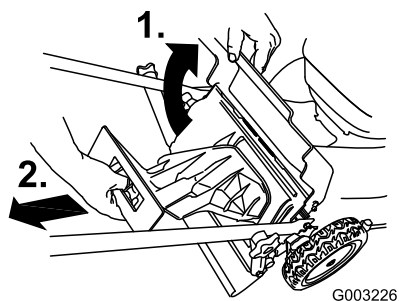

Figure 28
1. Raise and hold up the rear door (Figure 28).
2. Remove the rear discharge plug (Figure 28).